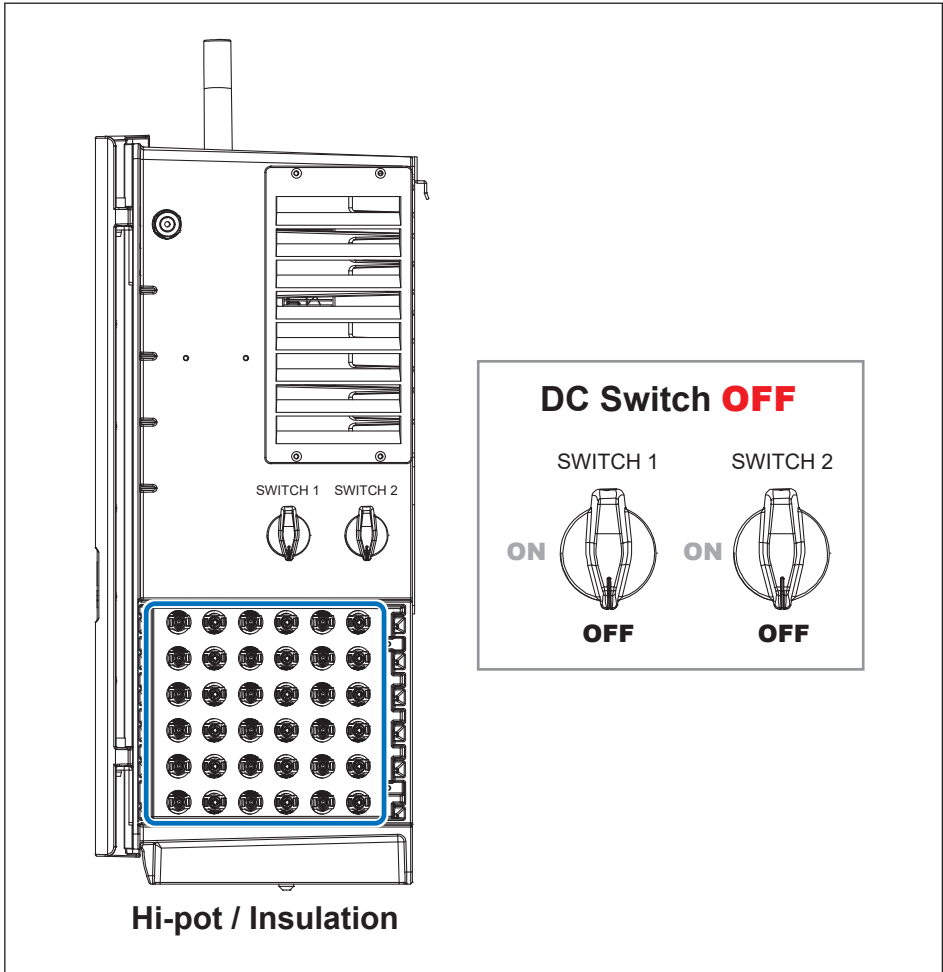

Figure 3-28: Precautions for on-site insulation test
2. Apply one probe to the positions shown in **Figure 3-28**, the other to the ground. It might cause damages to the inverter if probes are applied to inappropriate positions.